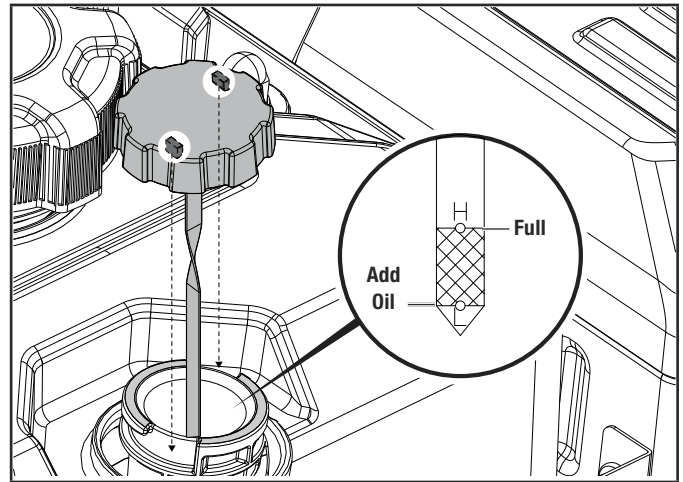

Figure 12B
3. Fully insert the oil cap/dipstick into the filler neck until it seats completely (note the detent). Turn it ¼ turn clockwise to secure it. Remove the dipstick, wipe it clean with a lint-free cloth, reinsert it fully and secure it again with a ¼ turn, then remove it once more to check the oil level (see Figure 12B).
4. If the oil level is near or below the lower limit mark on the dipstick, remove the oil cap/dipstick, and fill with the recommended oil to the upper limit mark. Do not overfill (Fig. 12B).